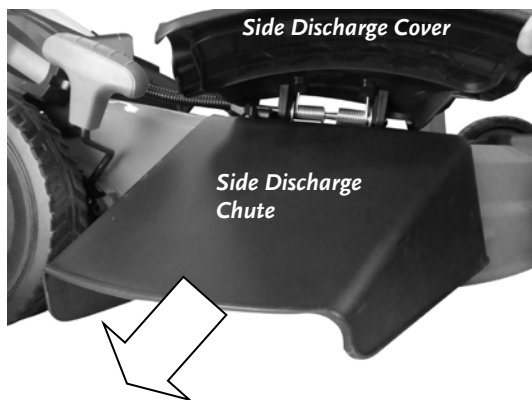

Figure 14
2. Remove the Side Discharge Chute to allow the Side Discharge Cover to close (**Figure 14**).